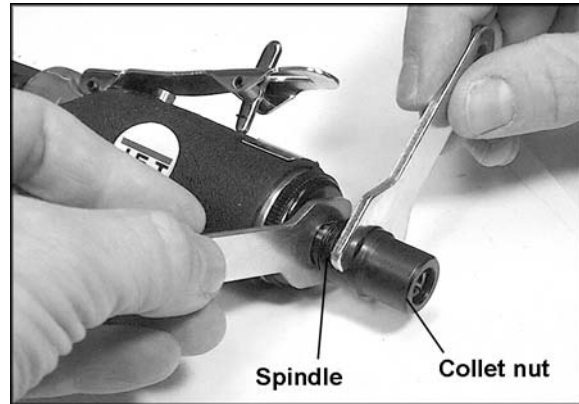

Figure 1
3. Loosen the collet nut using the two wrenches on the flats of the collet nut and spindle (Figure 1). Keep the wrench on the spindle stationary while turning the wrench on the collet nut.